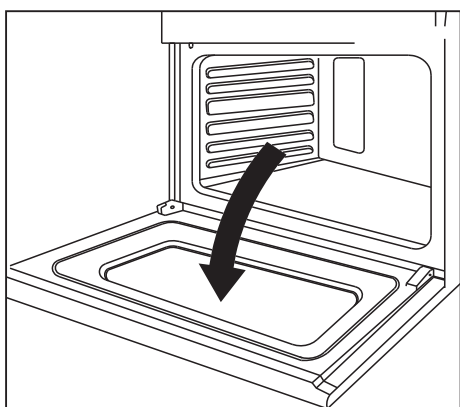

Figure 1
1. Open the door fully.(Refer to Figure 1.)